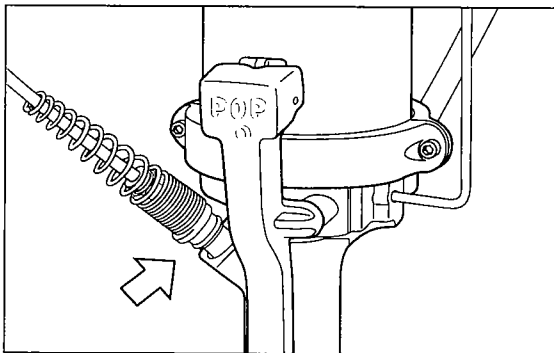

Figure 15
1. If mandrels accumulate in the passage area they will eventually push out the slide from the passage body (See Figure 15), interrupting the collection vacuum. The operator should notice less upward force when inserting rivets into the nosepiece and the rivet may not remain in the nosepiece without assistance.